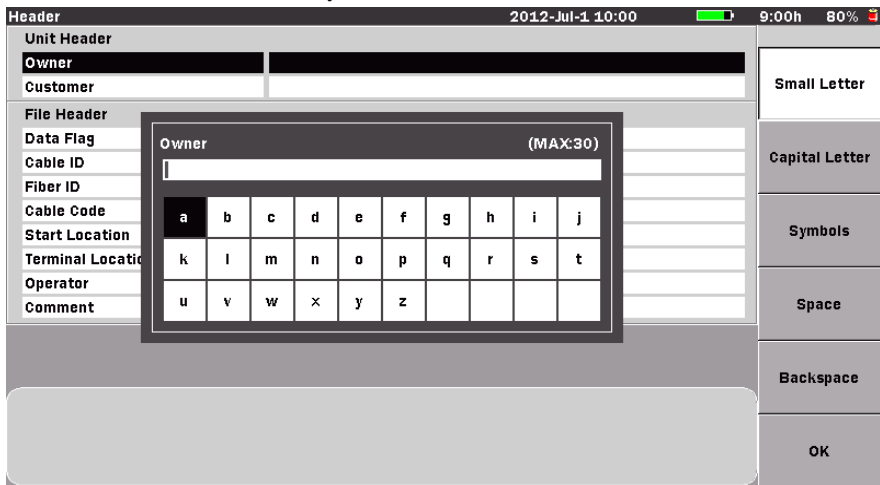

Figure 5-31: Text Entry dialog box
4. Use the **Up** and **Down Arrow keys** (or the **Rotary knob**) to highlight the desired field and then press the **Enter key**. The Text Entry dialog box appears (see Figure 5-31). If no USB keyboard is connected, follow the instructions from step 5. to enter the name using the front panel keys. If a USB keyboard is connected, you can modify the name directly from the keyboard. When all of the desired characters are entered, press the **Enter key** to return to the Header screen.